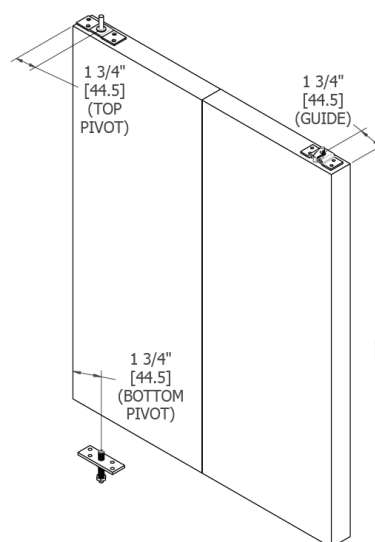

Fig 16
- Drill a 1-3/4" deep 3/8" diameter hole, at the center of the bottom door thickness, 1-3/4" from the pivot side door edge (Fig 16)
- Align the pivot hole with the bottom pivot plate hole and secure with (#8x1-1/2") screws (Fig 16)
- Position the top pivot plate center of the top door edge thickness, 1-3/4" from the pivot side door edge (Fig 16)
- Position the quick release plate center of the top door edge thickness, 1-3/4" from the guide side door edge (Fig 16)
- Identify each door pair's pivot and guide side (Fig 16)
- Drill a 1-3/4" deep 3/8" diameter hole, at the center of the bottom door thickness, 1-3/4" from the pivot side door edge, for each door pair (Fig 16)
- Align each pivot hole with each bottom pivot plate hole and secure with (#8x1-1/2") screws (Fig 16)
- Position the top pivot plate, center of the top door edge thickness, 1-3/4" from the pivot side door edge, for each door pair (Fig 16)
- Position the quick release plate, center of the top door edge thickness, 1-3/4" from the guide side door edge, for each door pair (Fig 16)